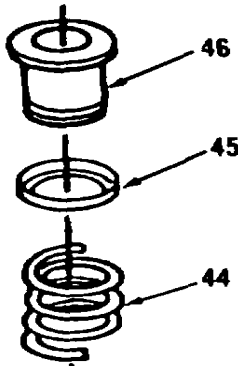

Figure 6-45.
- 21. Remove spring (44) and retainer (45) from valve (46, Figure 6-45).
- 1. Install retainer (45) and spring (44) onto valve (46, Figure 6-45).